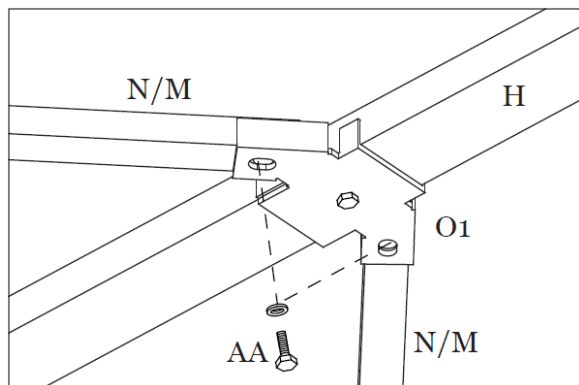

Figure 11-3
Step 11C: Attach the Main Roof Horizontal Supports (M and N) to the Main Roof Connectors (O1) using Bolts (AA). See Figure 11-3.